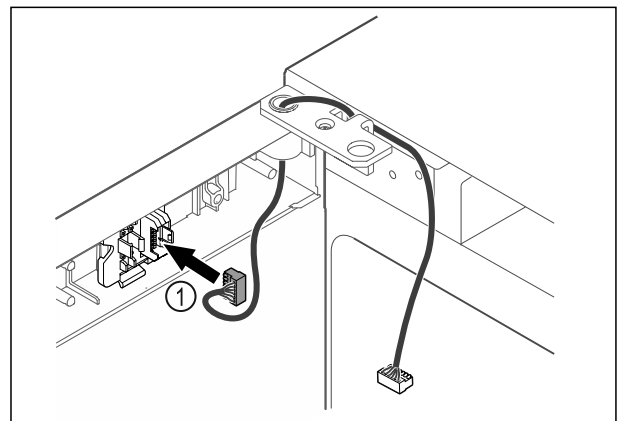

Fig. 43
- Put the plug Fig. 43 (1) in the plug holder.